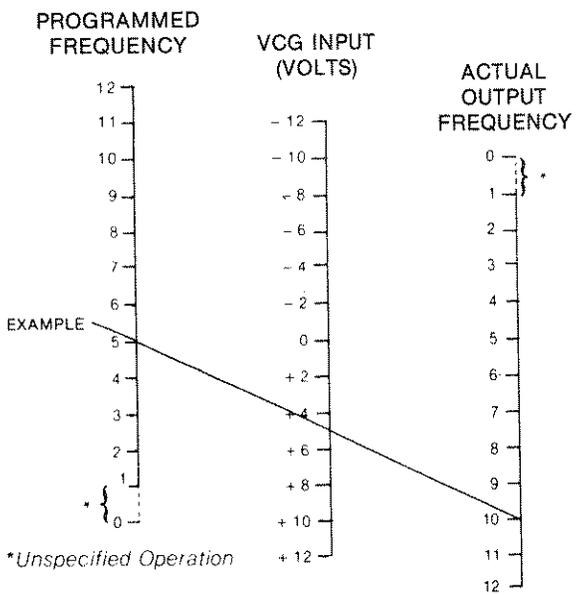

Figure 3-6. VCG (FM) Nomograph
The frequency of the main (non-arbitrary) waveform generator may be controlled by an ac or dc signal applied to the VCG IN BNC connector. A positive control voltage will increase the generator frequency; a negative voltage will decrease frequency. Frequency may be changed by the VCG control voltage only within a frequency range. Table 3-3, Internally Selected Frequency Ranges, shows the frequency ranges and corresponding VCG ranges. Figure 3-6, VCG (FM) Nomograph, illustrates the VCG voltage required to change the programmed frequency to the desired output frequency. (Frequencies in this figure are shown as significant digits, without the range multiplier.) Frequency range must be selected before applying the VCG signal.
For example, Table 3-3 shows that if the frequency is programmed to 500 Hz, the Wavetek 275 selects the 102 range. As shown in the example of Figure 3-6, a programmed frequency of 500 Hz and a +5V VCG input will produce an actual output frequency of 1 kHz.